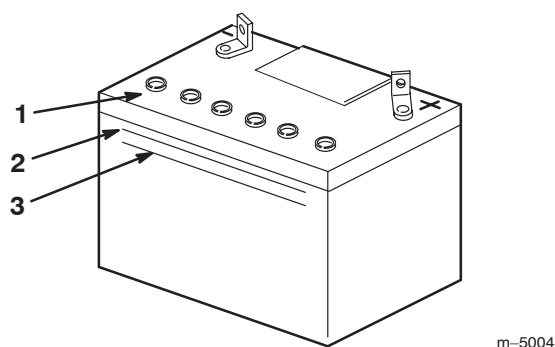

Figure 62
3. Look at the side of the battery. The electrolyte must be up to the **upper** line (Fig. 62).
Note: Do not allow the electrolyte to get below the **lower** line (Fig. 62).
3. Remove the vent caps from the battery (Fig. 62).
4. Slowly pour distilled water into each battery cell until the level is up to the **upper** line (Fig. 62) on the battery case.
5. Wait 5 to 10 minutes after filling the battery cells, then add distilled water, if necessary, until the electrolyte level is up to the **upper** line (Fig. 62) on the battery case.